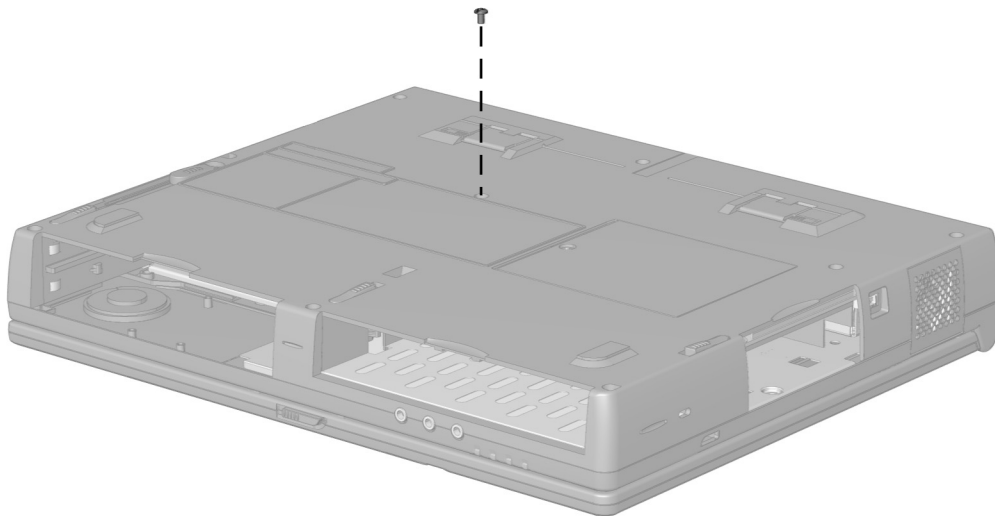

Figure 5-28. Removing the Keyboard Assembly Screw
5. Remove the screw from the bottom of the computer (Figure 5-28).